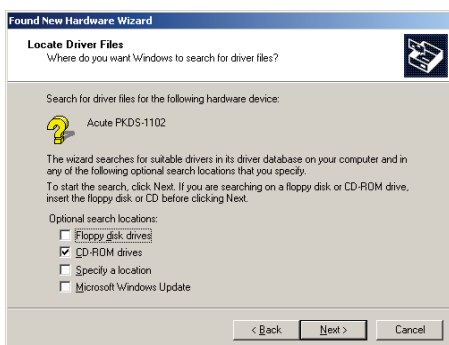

Figure 3
- (4) Choose “CD-ROM Drive”, and click “Next” (Figure 3).